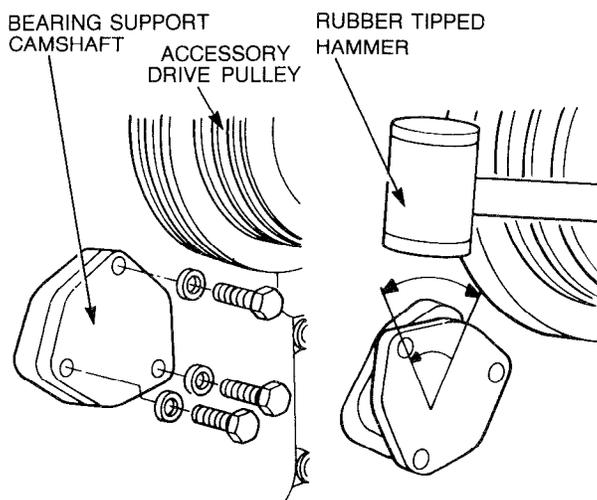

Figure 12 — Camshaft Bearing Support — Removal
- y. Remove the three bolts securing the camshaft bearing support to the front gear case, rotate the bearing support approximately 60° using a suitable rubber or plastic tipped hammer. Lever the bearing support from the front gear cover, using a suitable pry bar, then remove and discard the O-ring (see Fig. 12). Remove the shims from the bearing support, then using a suitable micrometer measure and note the combined thickness of the shims.